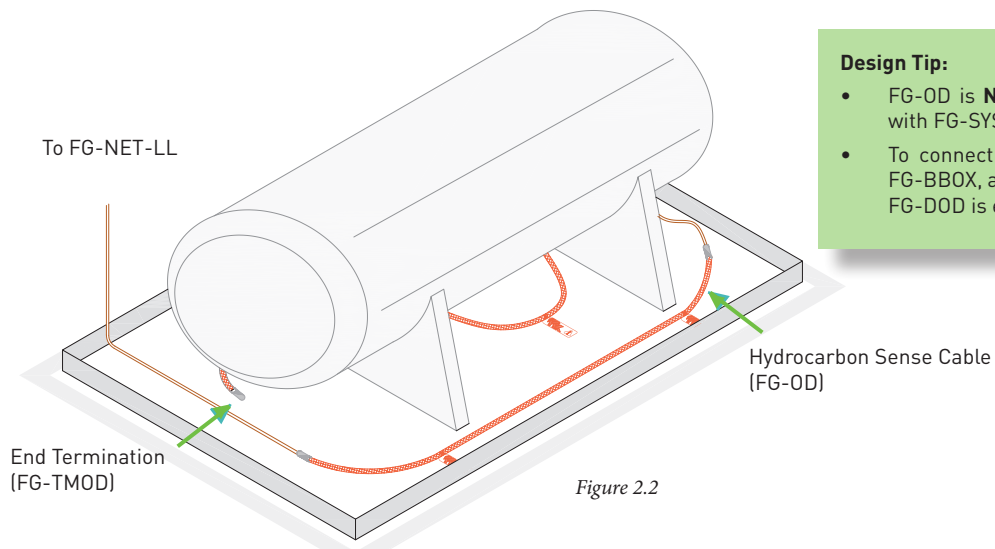

Figure 2.2
**Layout Explanation (Figure 2.2) :**